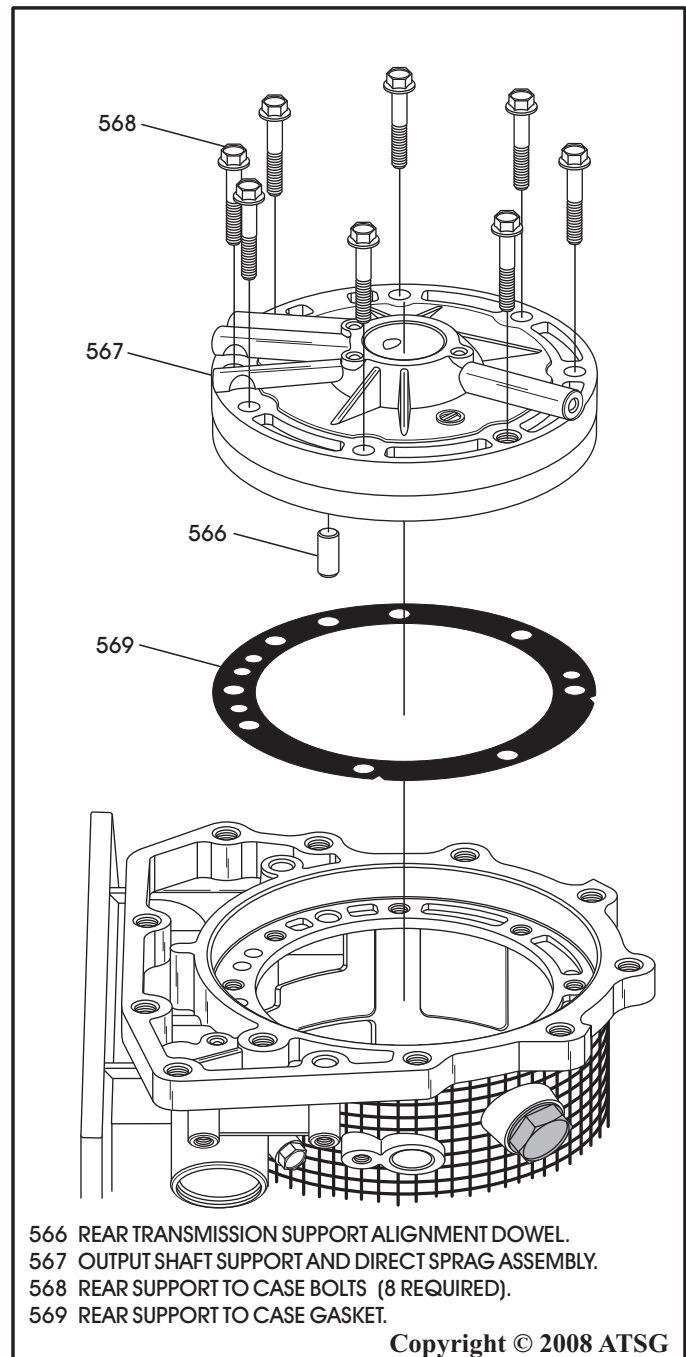

Figure 62
11. Remove the eight retaining bolts holding the output shaft support, as shown in Figure 62.
12. Remove output shaft support and direct sprag assembly, as shown in Figure 62, and set aside for the component rebuild section.
13. Remove and discard output shaft support to case gasket, as shown in Figure 62.